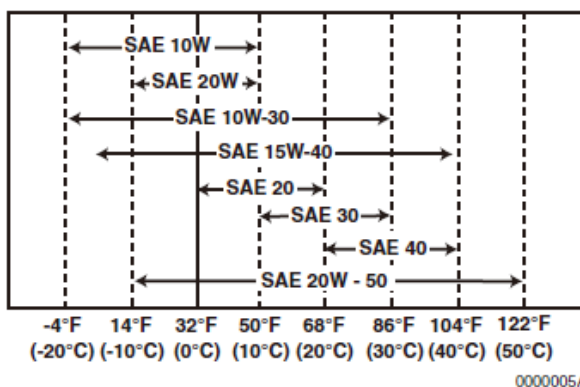

Fig.9-4
4. Add new engine oil to the engine through either of the oil filler ports as specified in **Fig.9-4**.